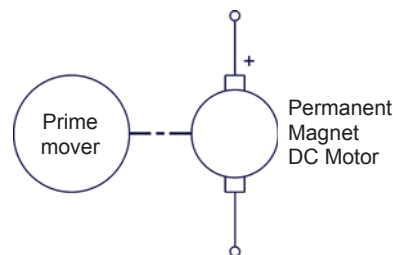

Figure 11. Prime mover coupled to a permanent magnet dc motor (no electrical load connected to the motor).
20. Set up the equipment as shown in Figure 11. In this circuit, no load is connected to the Permanent Magnet DC Motor output.